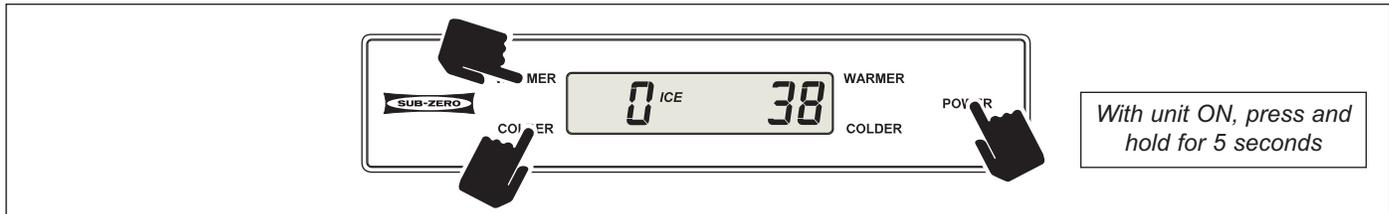

Figure 3-65. With Unit ON, Press and Hold the Freezer WARMER and COLDER Keys, Then Press the POWER Key
To manually defrost the freezer evaporator the unit must be in the ON state, then press and hold the freezer WARMER and COLDER keys and the POWER key for five (5) seconds (See Figure 3-65).